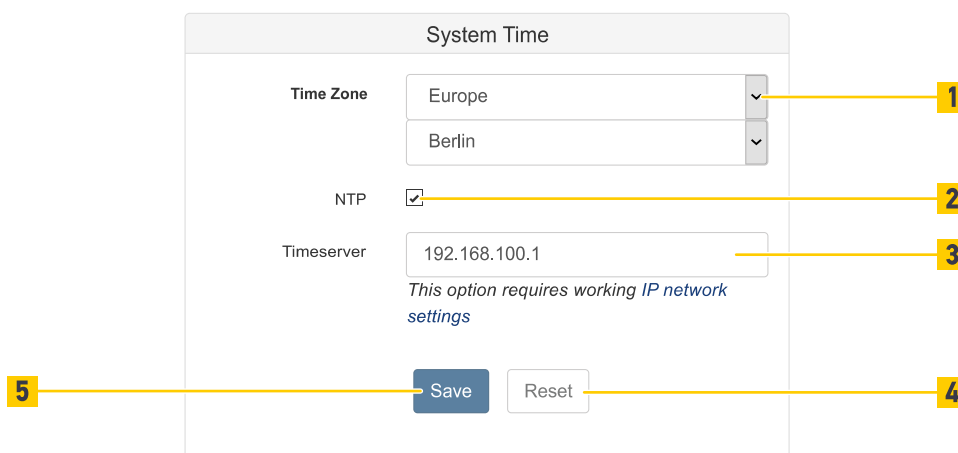

Fig. 136: Using NTP for setting date and time
- Set the time zone by choosing region and location (Fig. 136 /1) from the dropdown boxes.
- NTP (Fig. 136 /2) should be activated to set the correct time and date automatically after reboot. Using NTP the IP address of the timeserver (Fig. 136 /3) has to be defined.
- To go back to the last saved settings click the Reset button (Fig. 136 /4).
- To save all the settings in the device click the Save button (Fig. 136 /5).